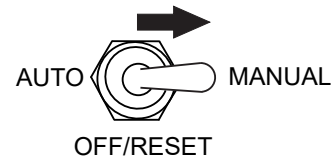

Figure 46. Auto Start/Stop Switch (Manual Position)
2. To start the engine, place the **Auto Start/Stop switch** in the **MANUAL** position (Figure 46).